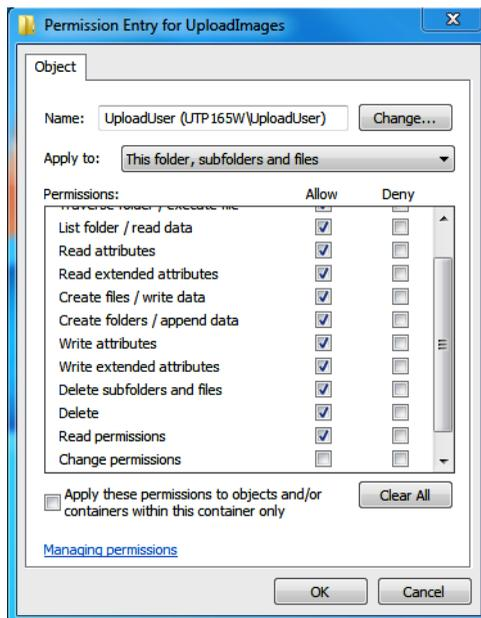

FIGURE 2-31 Permissions Entry for UploadImages - Upload User
Step 35 For **Permission Entries**, select the following **Allow** rights, as shown in FIGURE 2-31: